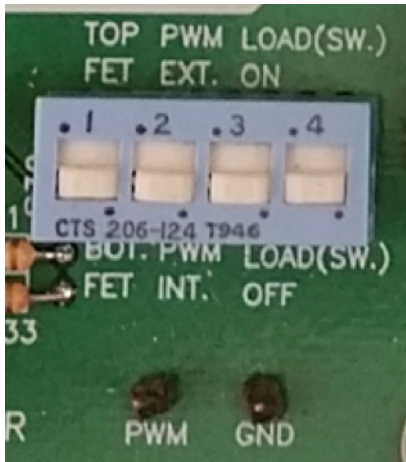

Figure 10. Slider Switch Array
5. Place the second sliding switch in the blue switch array on "Int. PWM. Check the location of the sliding switch array in Fig.10.
6. Hook the probe's measuring clip to the "PWM" pin shown in Fig. 10.
7. Connect the probe ground to the "GND" pin shown in Fig. 10.